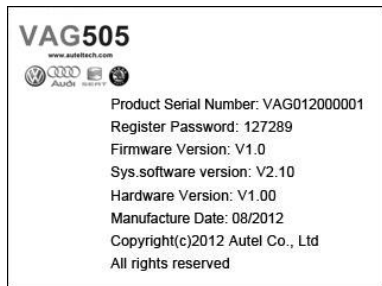

Figure 3.6
- 2) View tool information on screen. (Figure 3.6) Press the **ESC** button to exit without saving.